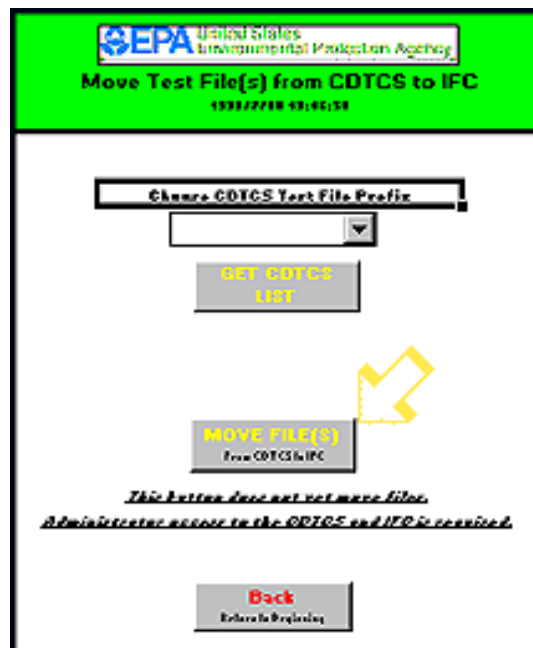

Figure 39
- 805 Click on the "Transfer File(s)" button. See the arrow in Figure 39. The data will be transferred to CFEIS.